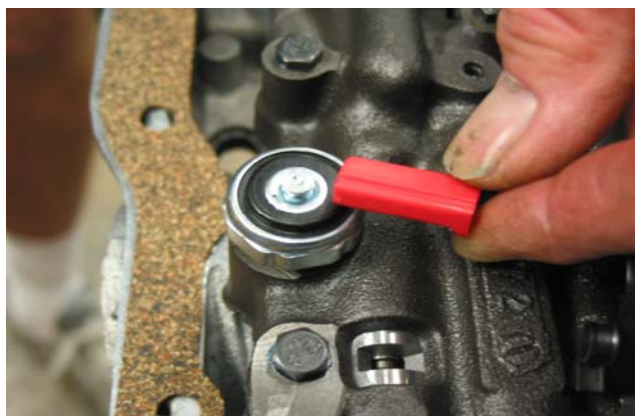

Figure 8
- Carefully fasten the wires using the original metal clips on the valve body bolts. See Figures 6 and 7. Attach the red connector to the new 4th gear pressure switch. See Figure 8.